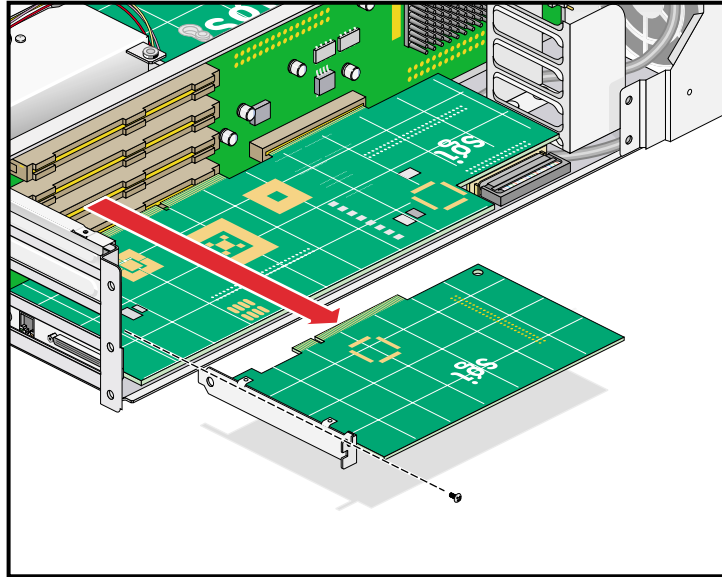

Figure 6-13 Removing the Retaining Screw and Extracting the Card
9. Unscrew the retaining screw from the card that you will remove, and extract the card, as shown in Figure 6-13. Place the card on an ESD-safe surface.